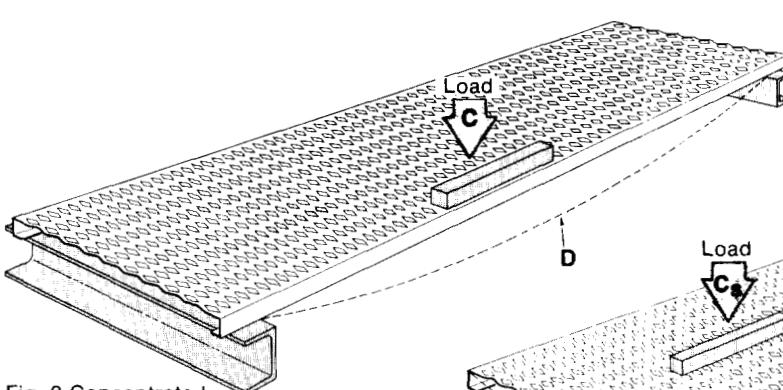

Fig. 2 Concentrated Load
Values tabulated in the rows labeled "C" are the lowest of the (1) maximum allowable concentrated load considering side channel flexure (with one side channel supporting the entire load—Fig. 2), and (2) the maximum allowable strut flexure (Fig. 1).